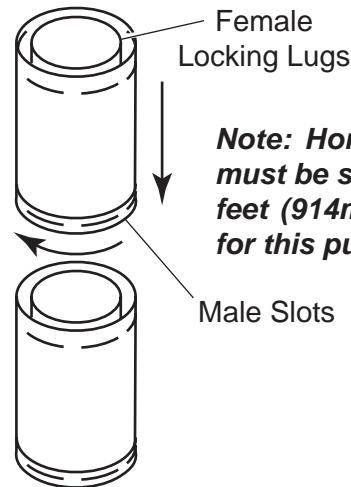

Figure 16 - Rigid Vent Pipe Connections
1. Establish vent hole through the wall. *See Figure 16, page 18.*